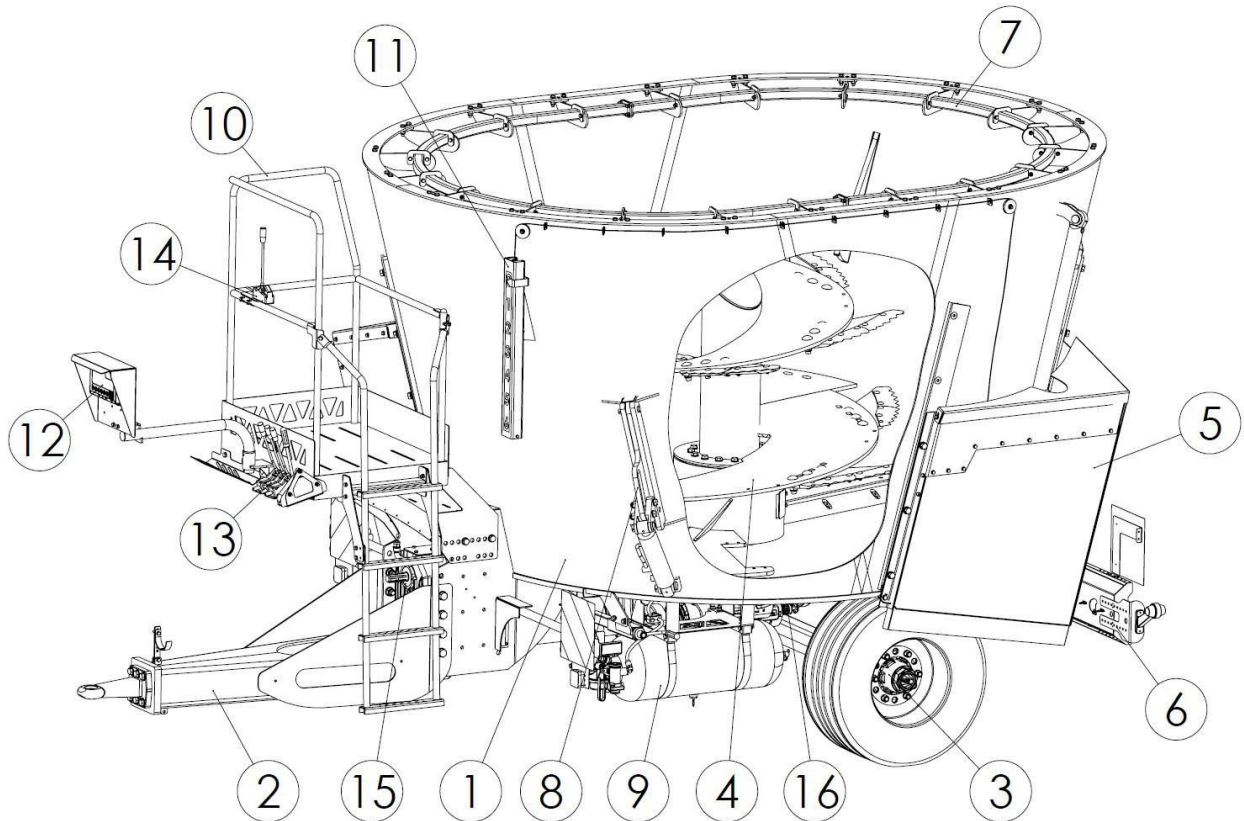

Figure 8. General design of the OPTIMAL T659/1, BEL-MIX T659/5 feeder wagon:
The OPTIMAL T659/1 and T659/5 feeder wagon is a machine based on a self-supporting construction, i.e. it does not have a separate frame and the tank (1) is the the main connecting element between the drawbar and the driving axle. Figure 8 presents the overall design of the machine.